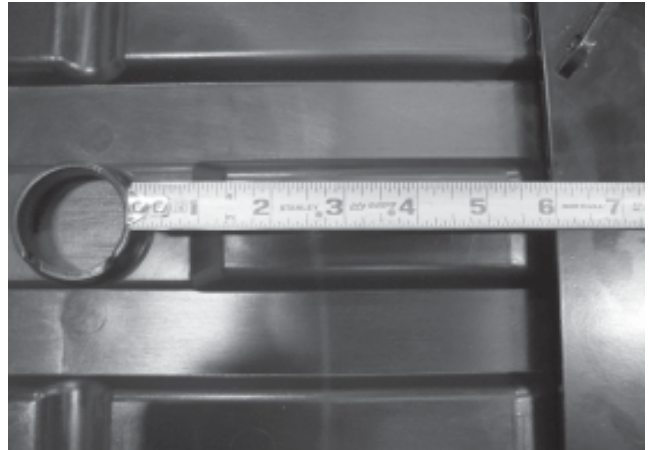

Figure 4
4. Place the plow mount 6" in front of the circular hole in the skid plate, as shown in figure 4.